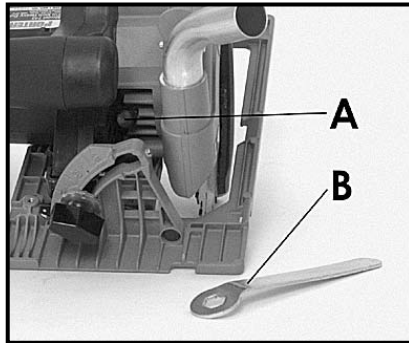

Fig. 1
2. Push in blade lock (A) Fig. 1, and rotate blade by hand until lock engages blade arbor.
3. While holding blade lock engaged, use wrench provided (B) Fig. 1, and loosen blade retaining bolt by rotating clockwise (left-hand thread).